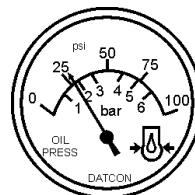

Figure 44. Oil Pressure Gauge
12. The engine oil pressure gauge (Figure 44) will indicate the oil pressure (kg/ cm²) of the engine. Under normal operating conditions the oil pressure should be approximately 25 psi.